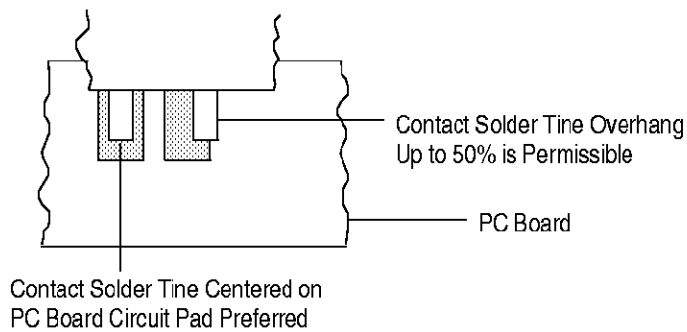

Figure 10
2. Coplanarity of the plated pads on the pc board will be 0.03. See Figure 10.
Optimally, the contact solder tines should be centered on the pc board circuit pads. However, slight misalignment is permissible as shown in Figure 10.